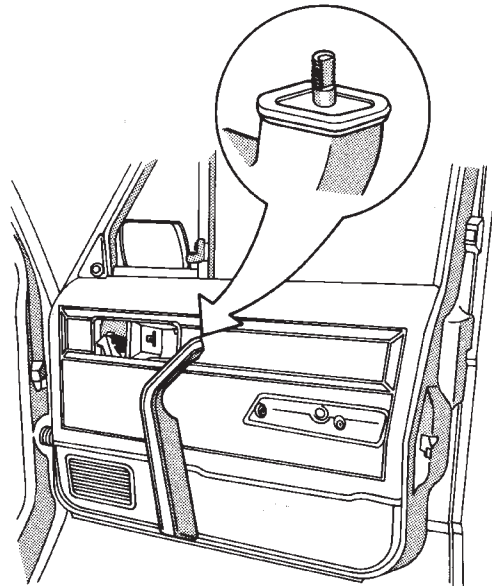

Fig. 3 Armrest Retainer Clip
(2) Disconnect control linkage and wire harness connector.
(3) Remove latch release and control panel assembly.
(4) Remove armrest lower retaining screws.
(5) Swing armrest downward to a vertical position. This is necessary to disconnect the armrest from the upper retainer clip (Fig. 3).